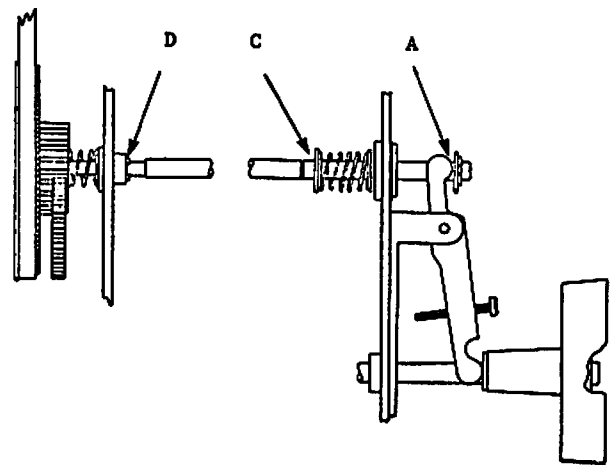
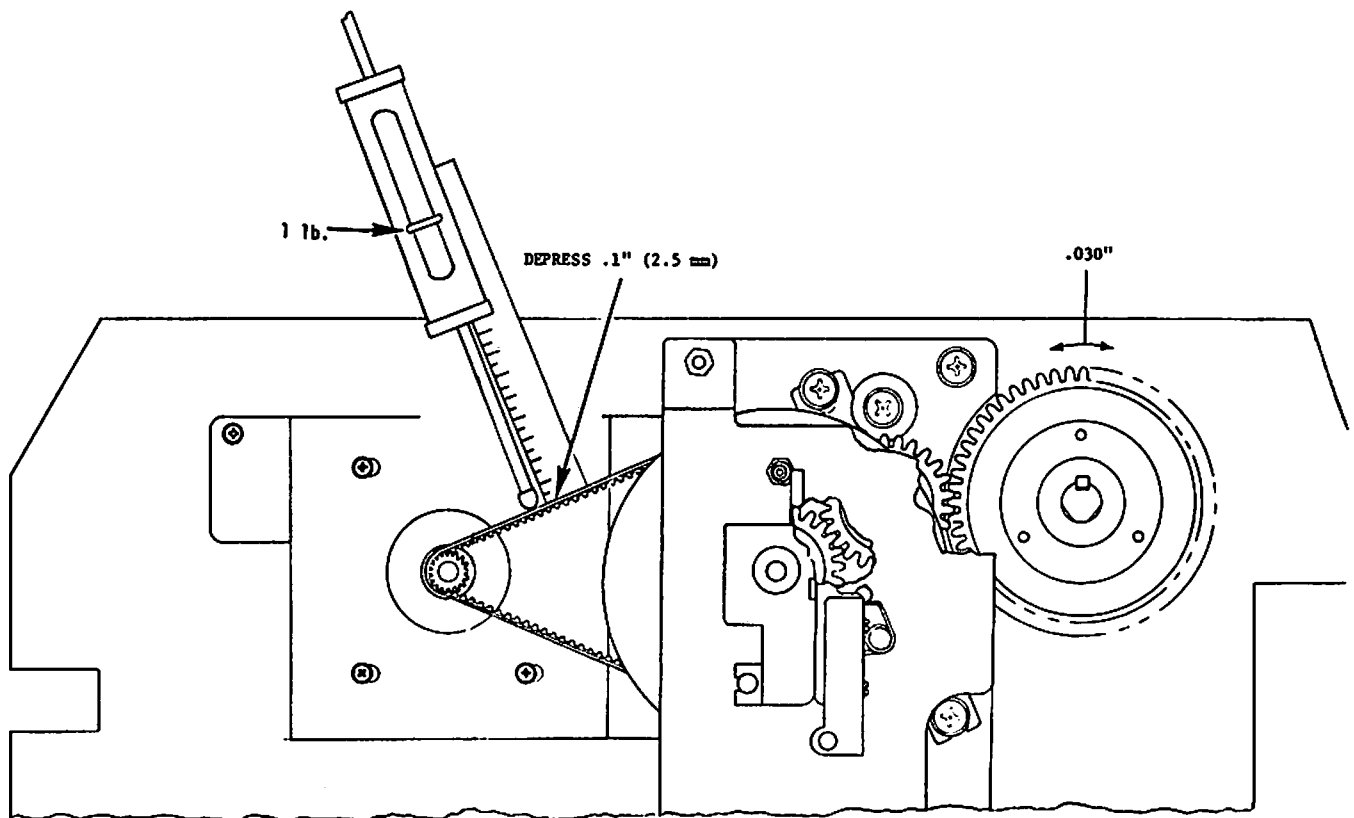

FIGURE 5-20 SPROCKET ADJUSTMENT
FIGURE 5-21 PAPER MOVEMENT ADJUSTMENT
By using the horizontal vernier knob, push the vernier clutch in and out. With the use of a feeler gauge check for a clearance of $.032" \pm .007"$ ($.081 \text{ cm} \pm .018 \text{ cm}$) between the idler gear and the cone gear as shown in Figure 5-21. Also when the knob is released after paper advancement the vernier clutch should fully reengage flush with gear surface as shown on Figure 5-20.
- 1) With clutch engaged (automatic advance) adjust Allen screw in the center of horizontal vernier knob for a gap of $.021'' \pm .004''$ ($.053 \text{ cm} \pm .010 \text{ cm}$) between actuating arm and clutch rod washer (point A in Figure 5-20).
- 7) Remove C clip (point C) and two snap rings (point D) from the vernier actuating rod and slide rod from the right to left out of the machine (Figure 5-20).
- 1) Check paper sprocket drive gear for maximum backlash of .030" (.076 cm), holding vertical format unit gear immobile (Figure 5-21).
- 2) Stepping Motor Timing Belt with the belt depressed .1" (.25 cm), the scale should read 1 lb. (453 grams). (Figure 5-21.)